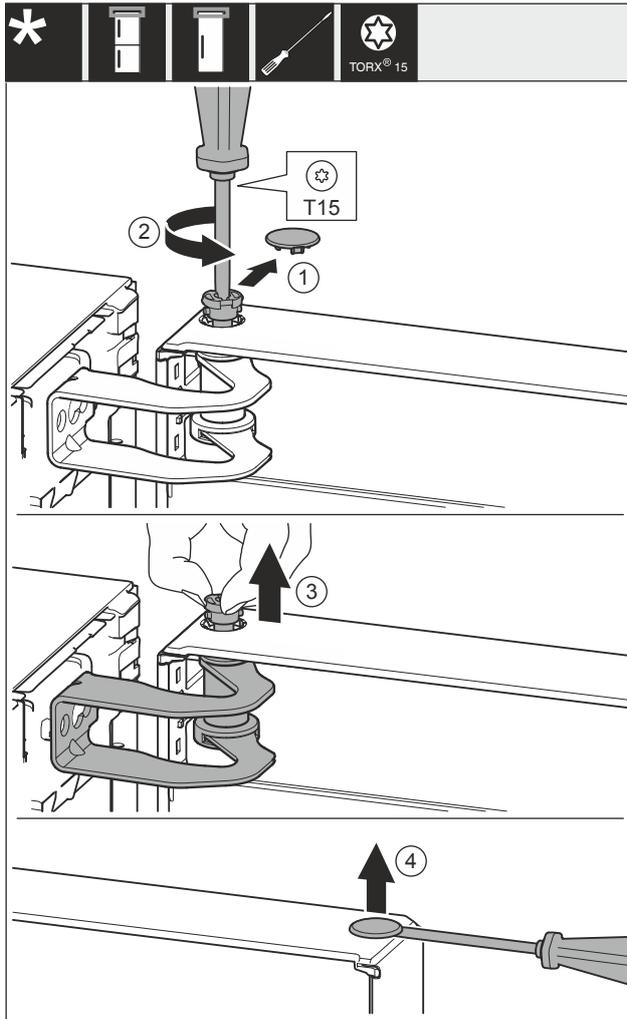

Fig. 29
- ▶ Carefully remove the cover Fig. 29 (1).
- ▶ Use screwdriver to loosen the bolts Fig. 29 (2) a little.
- ▶ Pull out the bolt Fig. 29 (3) with your fingers.
- ▶ Carefully lift and remove the cover Fig. 29 (4) with a screwdriver.